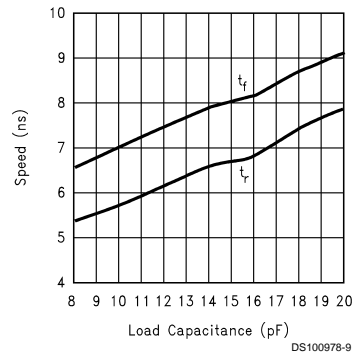

FIGURE 8. Speed vs Load Capacitance
*Figure 8* shows the effect of increased load capacitance on the speed of the device. This demonstrates the importance of knowing the load capacitance in the application.